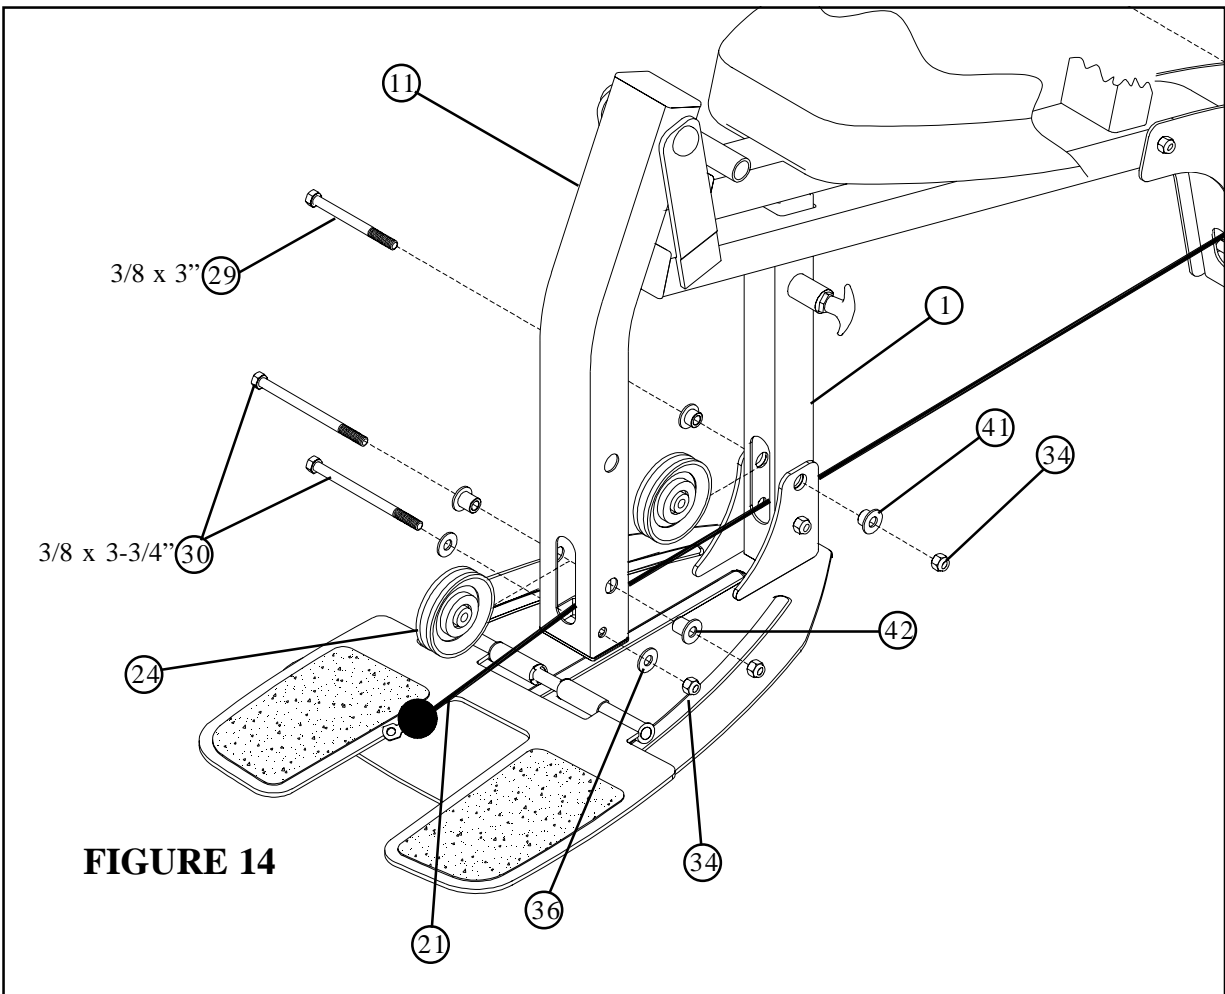

FIGURE 14
- [CABLE MUST BE POSITIONED BETWEEN PULLEY AND LOWER BOLT ASSEMBLY ON LEG PEDESTAL (11) AND FRAME (1)]
- Securely assemble the ball end of the LOW CABLE (21) and one 3-1/2” PULLEY (24) to the LEG PEDESTAL (11) using two 3/8 X 3-3/4” BOLTS (30), two 3/8” X 1-1/16” FLANGE SPACERS (42), two 3/8” WASHERS (36), and two 3/8” LOCKNUTS (34). (NOTE: The LEG CABLE (21) should be routed over the retaining bolt as shown in FIGURE 14.)
- Securely assemble one 3-1/2” PULLEY (24) and two 3/8 X 3/4 FLANGE SPACERS (41) to the FRAME (1) using one 3/8 X ” BOLTS (29), and one 3/8” LOCKNUT (34). (NOTE: The LEG CABLE (21) should be routed over the retaining bolt as shown in FIGURE 14.)